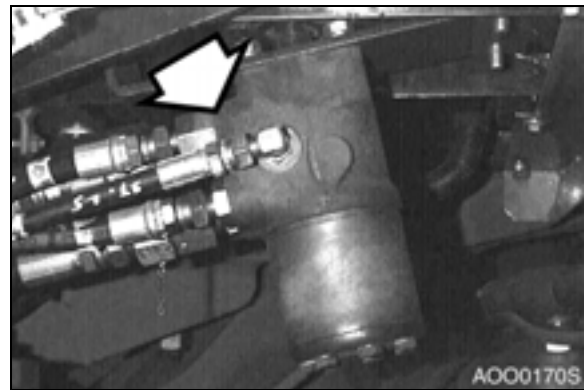

Figure 97
2. Adjust relief valve cartridge on steering valve (Figure 97). Cartridge must be adjusted to open at 200 ± 5 kg/cm² ($2,845 \pm 70$ psi).